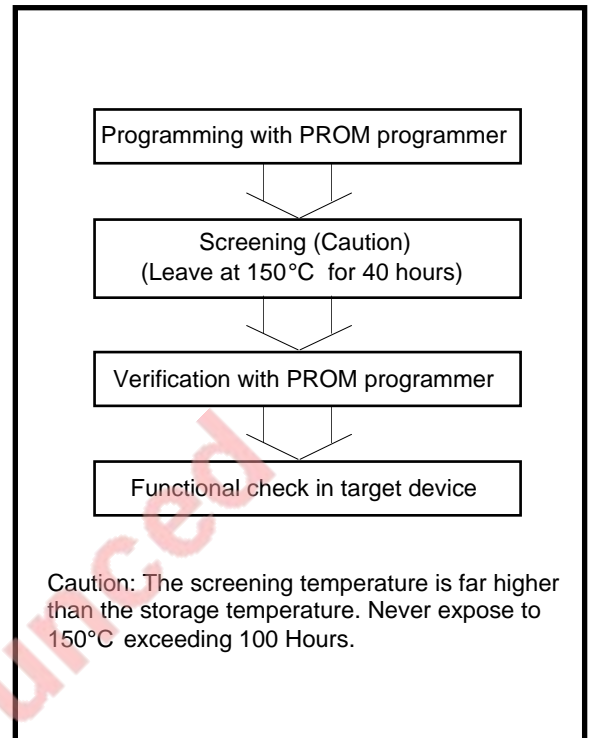

Fig. 1.19.7 Programming and testing of One Time PROM version
- The PROM of the One Time PROM version is not tested or screened in the assembly process and following processes. To ensure proper operation after programming, the procedure shown in Figure 1.19.7 is recommended to verify programming.